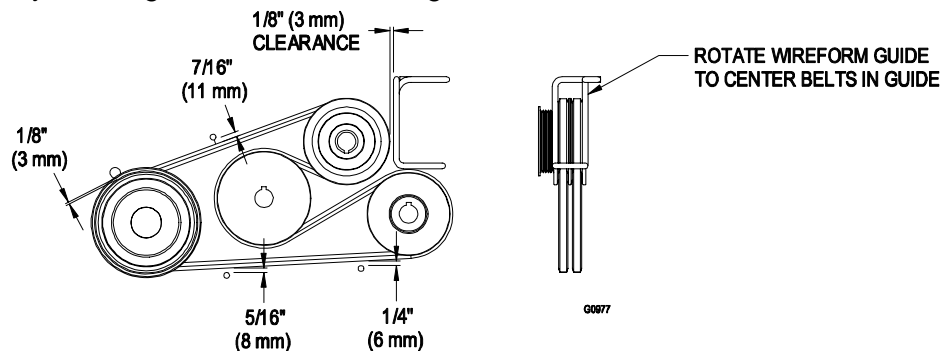

FIGURE 8
- c) Adjust belt guides as shown in Figure 8.